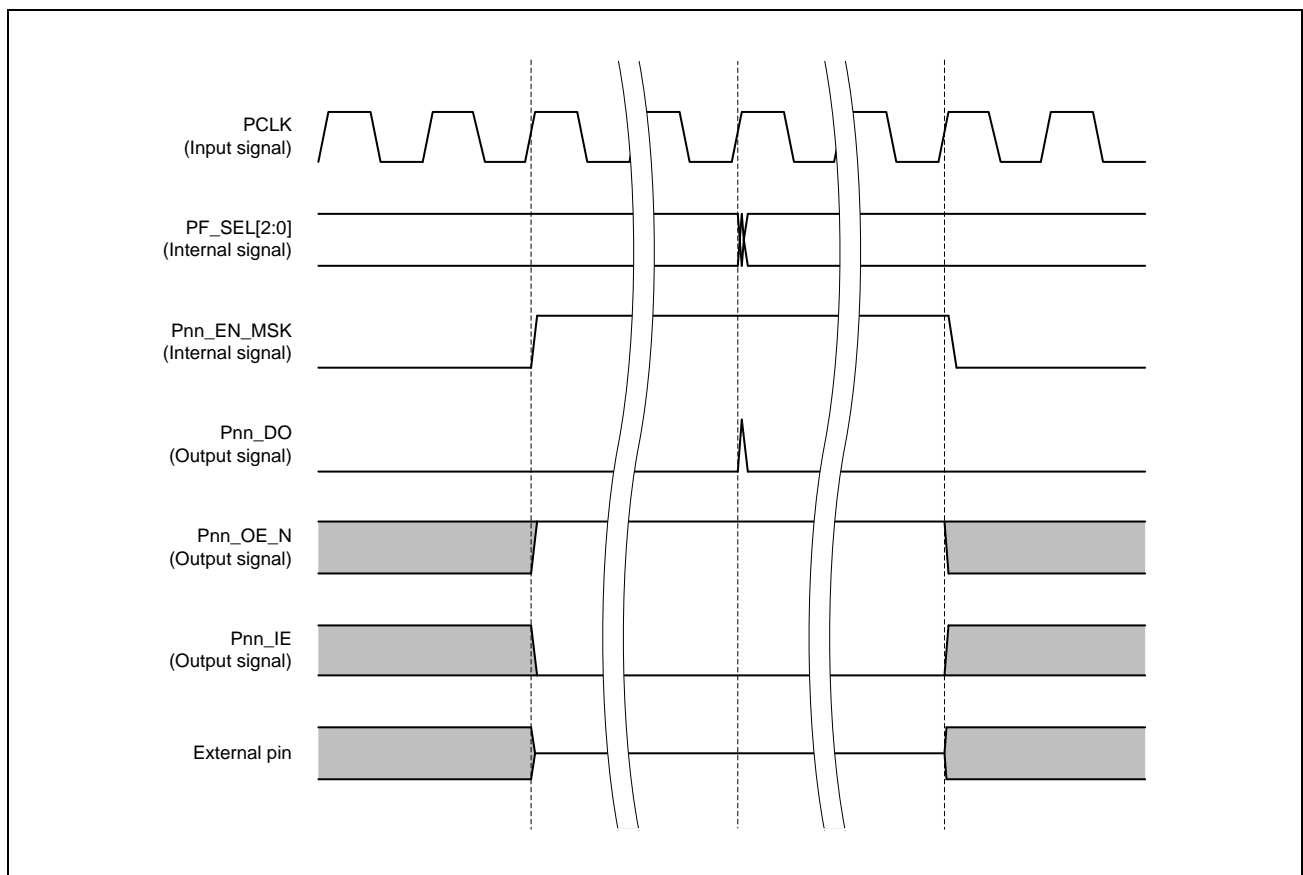

Figure 32.5-1 Example of Output Waveforms of Data and Enable Signals when Switching the Multiplexed Pin Function
**Figure 32.5-1** shows an example of output waveforms of Pnn\_DO, Pnn\_OE\_N, and Pnn\_IE when switching the multiplexed pin function.